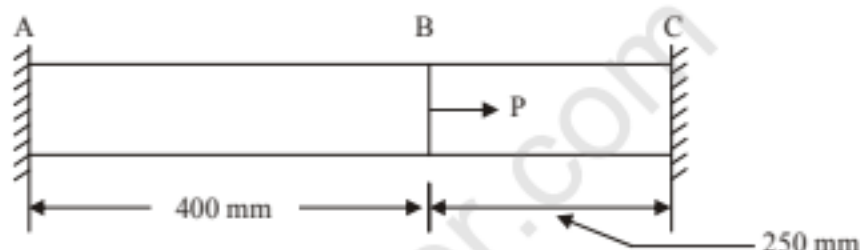

Fig.1
3. A square bar of 25 mm side is held between two rigid plates and loaded by an axial pull 'P' equals to 300 kN, as shown in Fig. 1. Determine the reactions offered by supports A. Take $E = 200 \text{ GPa}$.